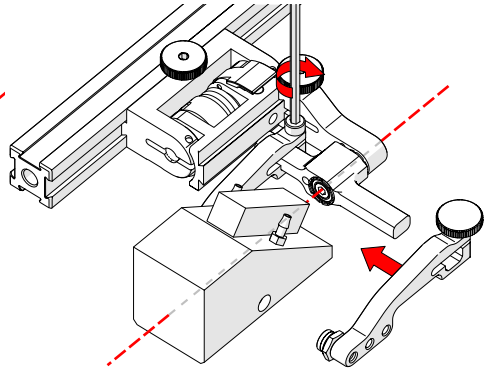

Fig. 49 - Place wedge
TIP: The probe holder yoke can accommodate many different probe and wedge sizes of varying widths. It is best to centre the wedge with the yoke's pivot axis to reduce wedge tipping when scanning. Position the inner probe holder arm with the yoke's centre (Fig. 49).
- Position the wedge on the inner probe holder arm (Fig. 49).
- Tighten the arm clamp screw (Fig. 49).